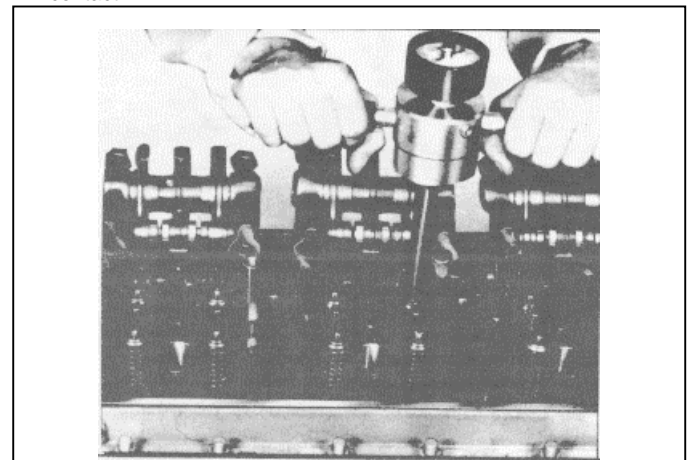

Fig. 15
- (10) With the exhaust valves installed in the cylinder head, use spring checking gage J 25076-01 and note the gage reading the moment the exhaust valve starts to open (Fig. 15). The minimum allowable pressure required to start to open the exhaust valve must not be less than 20 pounds (89 N.m).
- (11) Install the injectors, rocker arms, shafts, brackets and any other parts previously removed from the cylinder head.
- (12) Install the cylinder head (see "Pre-Installation Inspection" and "Install Cylinder Head" in SM1-63-5.0). Adjust the exhaust valve bridges as outlined below.